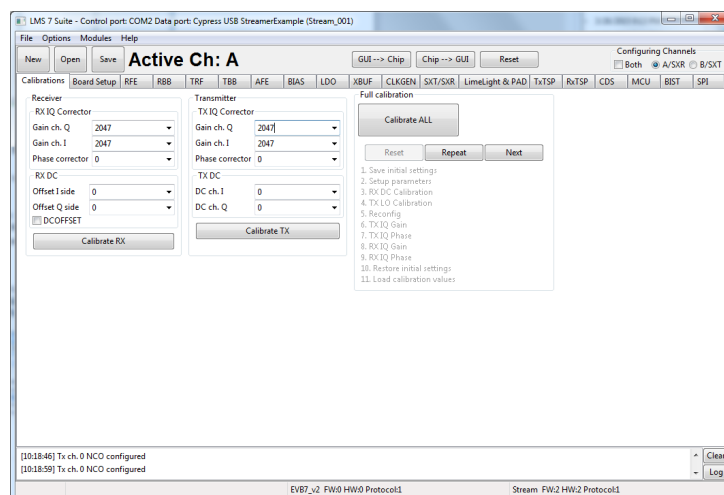

Figure 10 Select the pre-set file for transceiver
- Load the register pre-set file for the LMS7002M transceiver. This will set Tx PLL LO to 2140 MHz, RX LO to 1960MHz and configure the digital interface. To do that, press **Open** button in the GUI front panel. See *Figure 10*.
- b. The UNITE70002 has to be synchronized with analyser in order to correct frequency error. To do that, connect 10 MHz reference signal coming from analyser to X18 connector on the LMS7002 board. Select the **Bord Setup** tab in GUI and press **Synchronize**. See *Figure 10* The LD2 should light up, which indicates that board is synchronized.